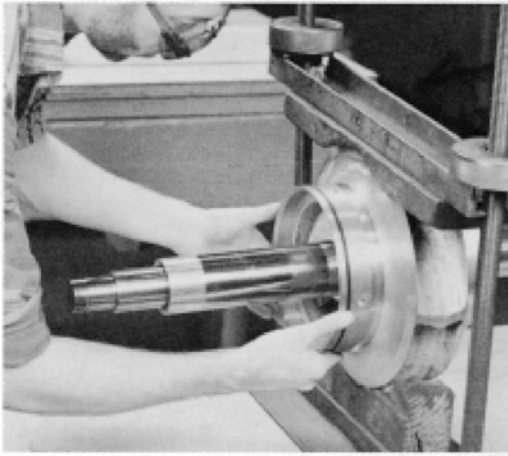

FIGURE 43 – REMOVING CASING RINGS FROM IMPELLER
- Remove two casing rings (3-003-9) from the impeller (4-002-0) and remove O-rings (3-914-2) from each casing ring (See Figure 43).